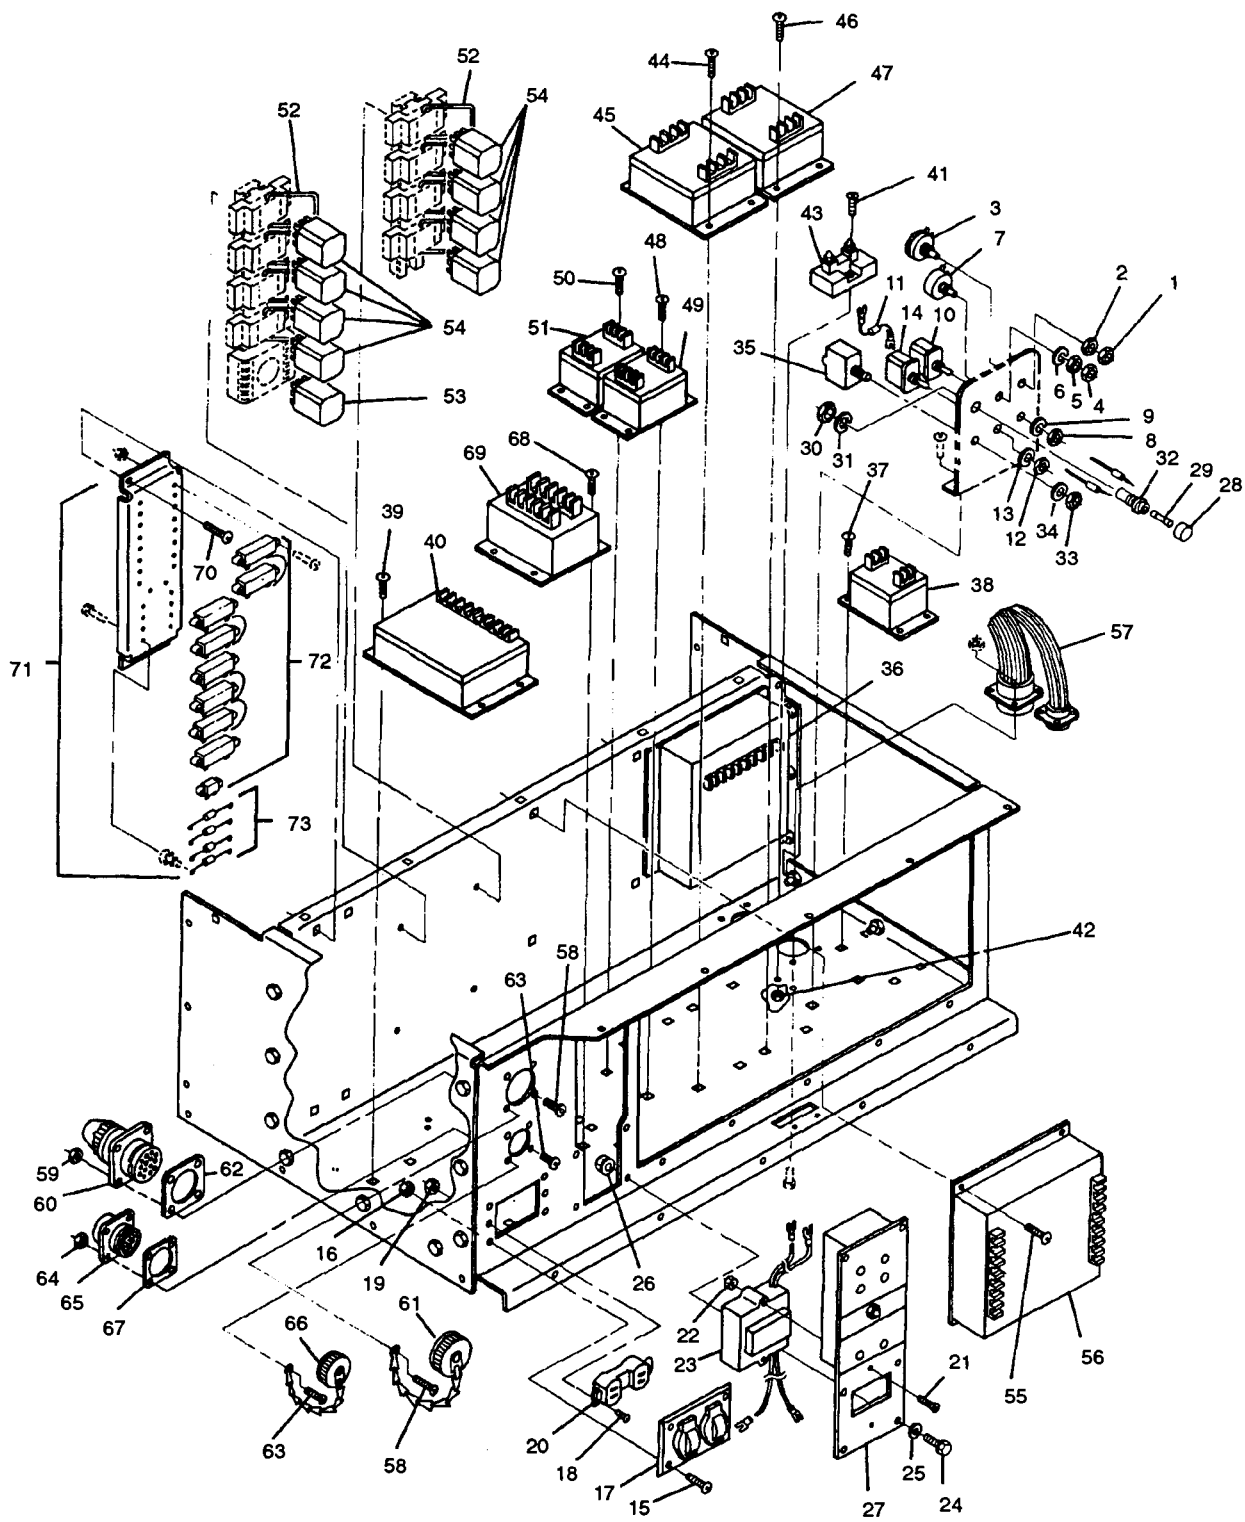

FIGURE 2-14. Control Box Components
- d. Tag and disconnect REACTIVE CURRENT ADJUST rheostat (3, FIGURE 2-14) electrical leads by unsoldering and remove shrinkable tubing.
- e. Remove nuts (1) and (2), and rheostat (3).
- a. Install rheostat (3, FIGURE 2-14) in mounting bracket.
- b. Install nuts (1) and (2).
- d. Tag and disconnect LOAD SHARING ADJUST rheostat (7, FIGURE 2-14) electrical leads.
- e. Remove nuts (4) and (5), lockwasher (6), and rheostat (7).
- a. Install LOAD SHARING ADJUST rheostat (7, FIGURE 2-14) in mounting bracket.
- b. Install lockwasher (6) and nuts (5) and (4).
- d. Tag and disconnect OVERSPEED RESET switch (10, FIGURE 2-14) electrical leads.
- h. Connect electrical leads to switch (10) and remove tags.
- e. Remove nut (8), lockwasher (9), and switch (10).
- a Install OVERSPEED RESET switch (10, FIGURE 2-14) in mounting bracket.
- b Install lockwasher (9) and nut (8).
- d Tag and disconnect FREQUENCY SELECT switch (14, FIGURE 2-14) electrical leads.
- i Connect electrical leads to switch (14) and remove tags.
- d Tag and disconnect electrical leads from FREQUENCY SELECT switch (14, FIGURE 2-14).
- e Tag and remove resistor (11) from FREQUENCY SELECT switch (14).
- f Remove nut (12), backwashes (13), and FREQUENCY SELECT switch (14).
- a Position FREQUENCY SELECT switch (14, FIGURE 2-14) in mounting bracket.
- b Install lockwasher (13) and nut (12).
- c Install resistor (11) on FREQUENCY SELECT switch (14) and remove tags.
- c. Tag and disconnect CONVENIENCE RECEPTACLE (20, FIGURE 2-14) electrical leads.
- f. Connect electrical leads to receptacle (20) and remove tags.
- d. Remove screws (15, FIGURE 2-14) and nuts (16).
- e. Remove CONVENIENCE RECEPTACLE cover (17).
- f. Remove machine screws (18), nuts (19), and CONVENIENCE RECEPTACLE (20).
- g. Tag and disconnect CONVENIENCE RECEPTACLE (20) electrical leads.
- a. Connect electrical leads to CONVENIENCE RECEPTACLE (20, FIGURE 2-14) and remove tags.
- b. Install CONVENIENCE RECEPTACLE (20) into panel cutout with machine screws (18) and nuts (19).
- c. Install CONVENIENCE RECEPTACLE cover (17) with screws (15) and nuts (16).